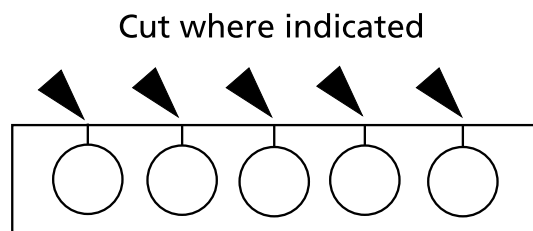

Figure 3-6
5. The spacers must be cut on one side with a pair of scissors prior to installation. Refer to Figure 3-6 for the correct areas to cut.